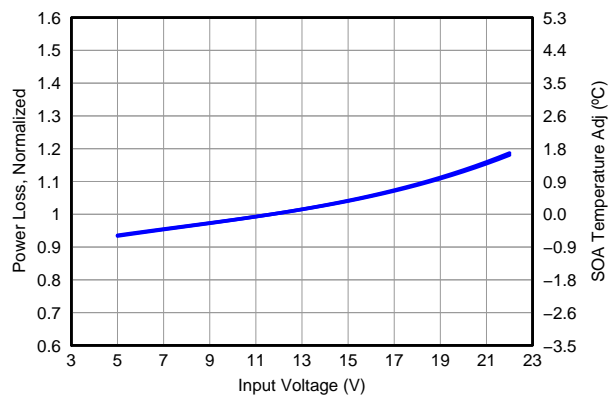

Figure 7. Normalized Power Loss vs Input Voltage
- Normalized Power Loss for input voltage ≈ 0.94 (Figure 7)
- SOA adjustment for input voltage $\approx -0.7^\circ\text{C}$ (Figure 7)